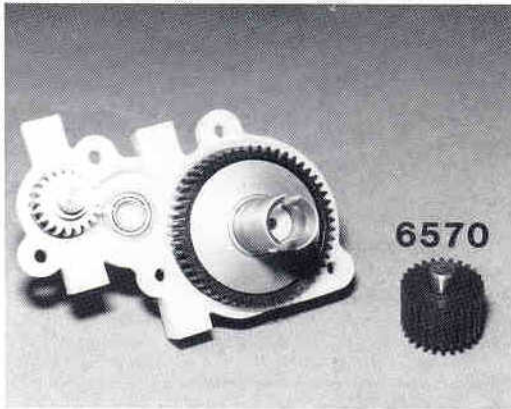

Fig. 78
□ **Figs. 78 & 79** Locate the #6570 idler gear and shaft from bag D and install it into the center bearing or bushing location in the right transmission case half. There is no right and left so the gear can go in either way. Fig. 79 shows the right hand case half with all three gears installed.